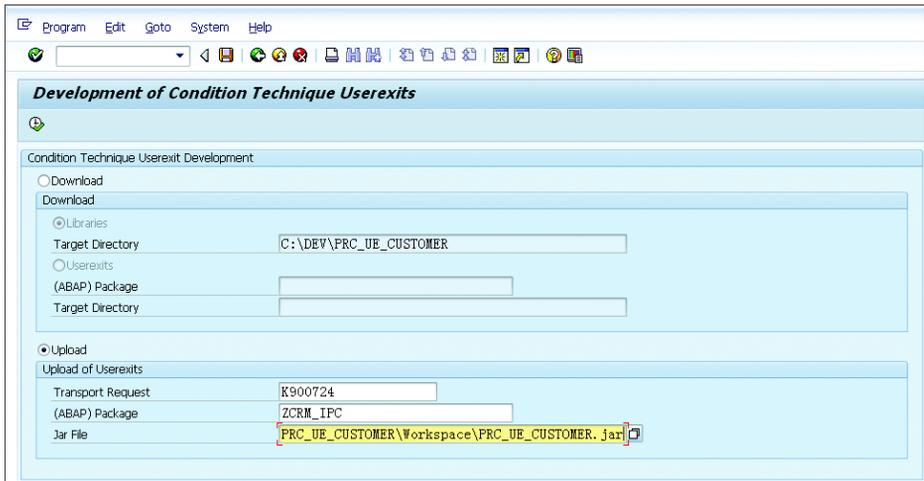

Figure 2.50 Uploading the User Exit JAR File
7. Go to the SAP GUI and Transaction /SAPCND/UE_DEV. Select the UPLOAD radio button as shown in Figure 2.50, and add the TRANSPORT REQUEST number to log the changes. Select the JAR file, and execute the upload.